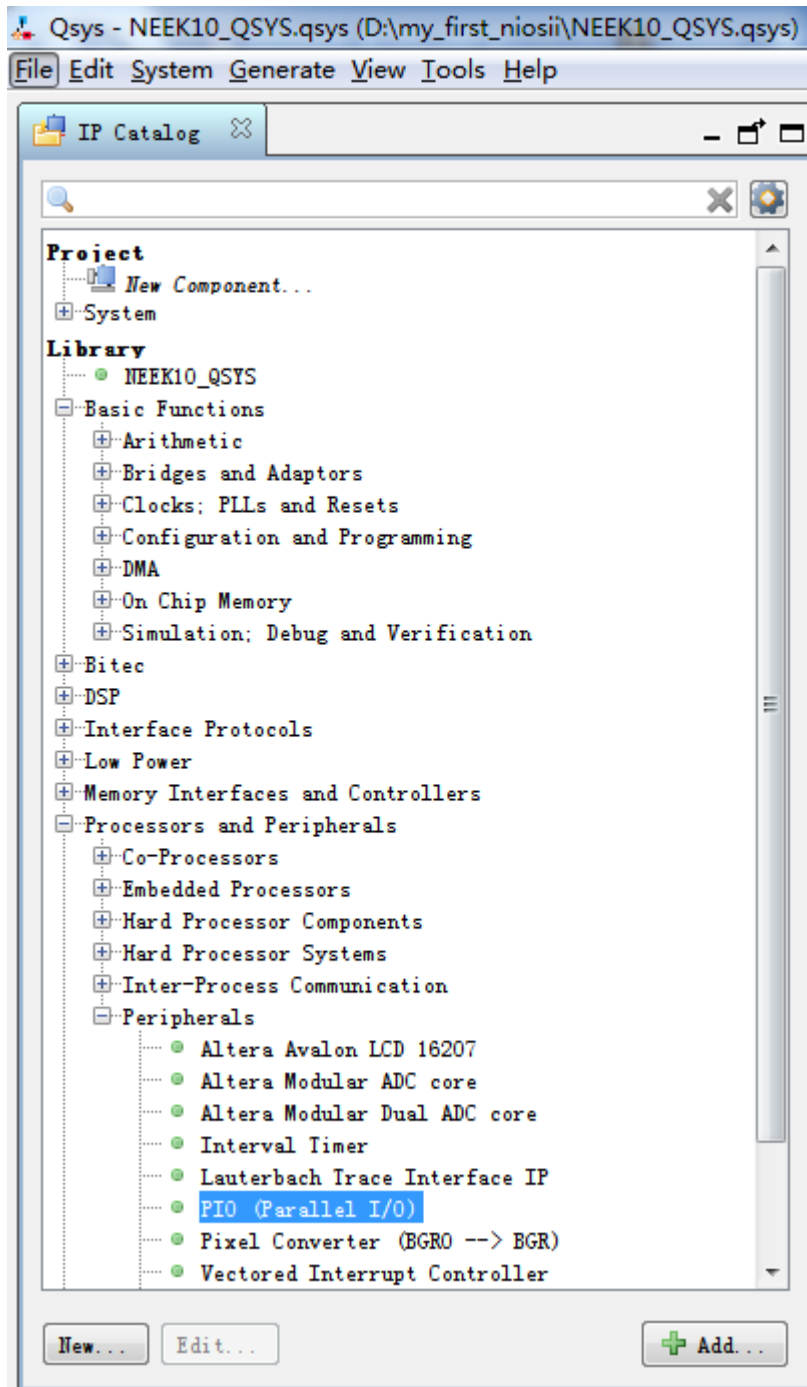
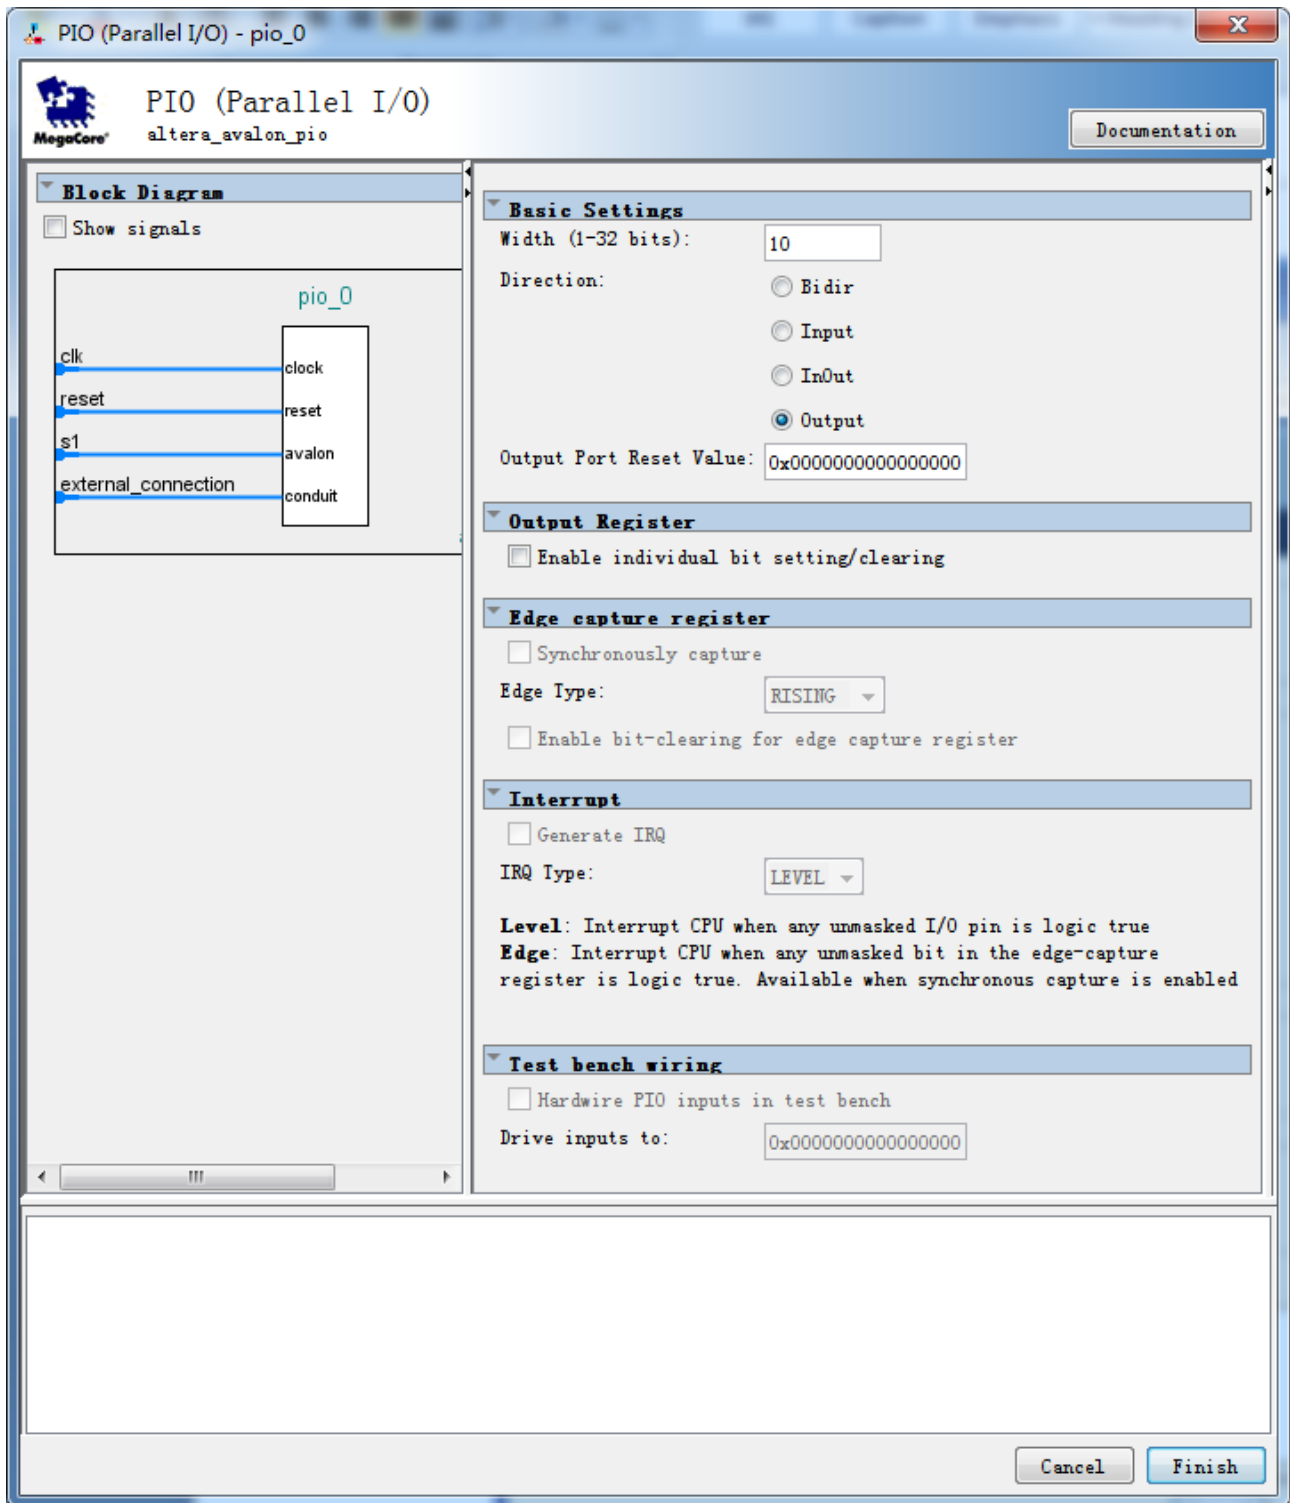

Figure 1-27 Add PIO component
Figure 1-28 Set the Width to 10 bits
19. Choose **Library** -> **Processors and Peripherals** -> **Peripherals** -> **PIO (Parallel I/O)** to open add PIO component, as shown in **Figure 1-27**. Set the Width to 10 bits and click **Finish**, as shown in **Figure 1-28**.